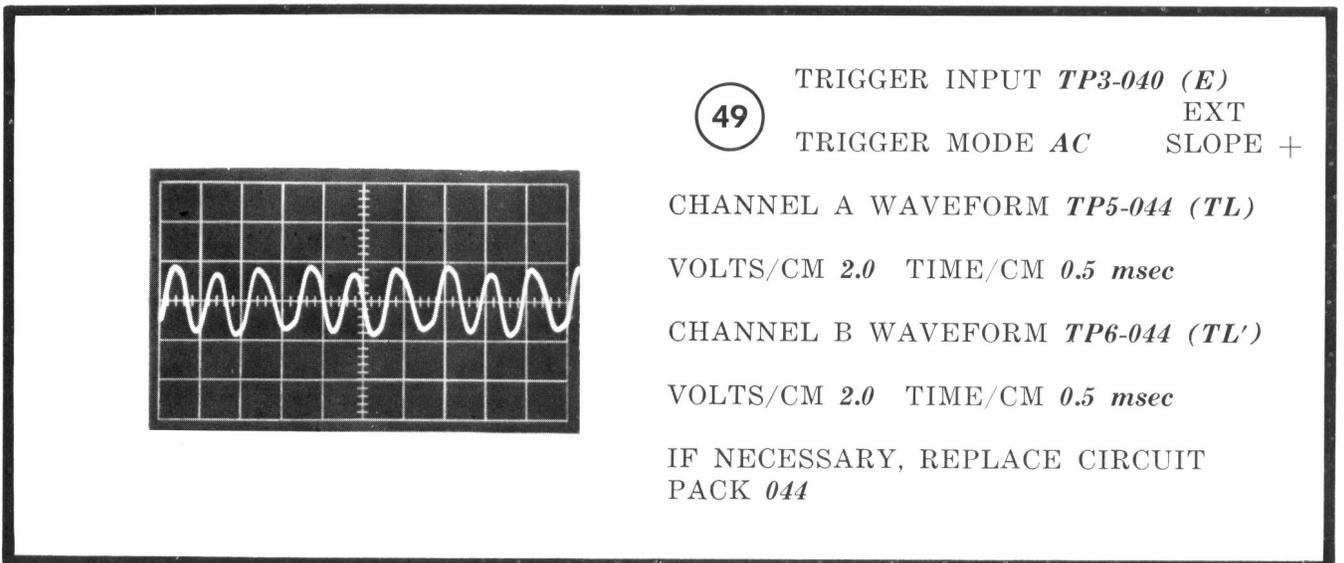
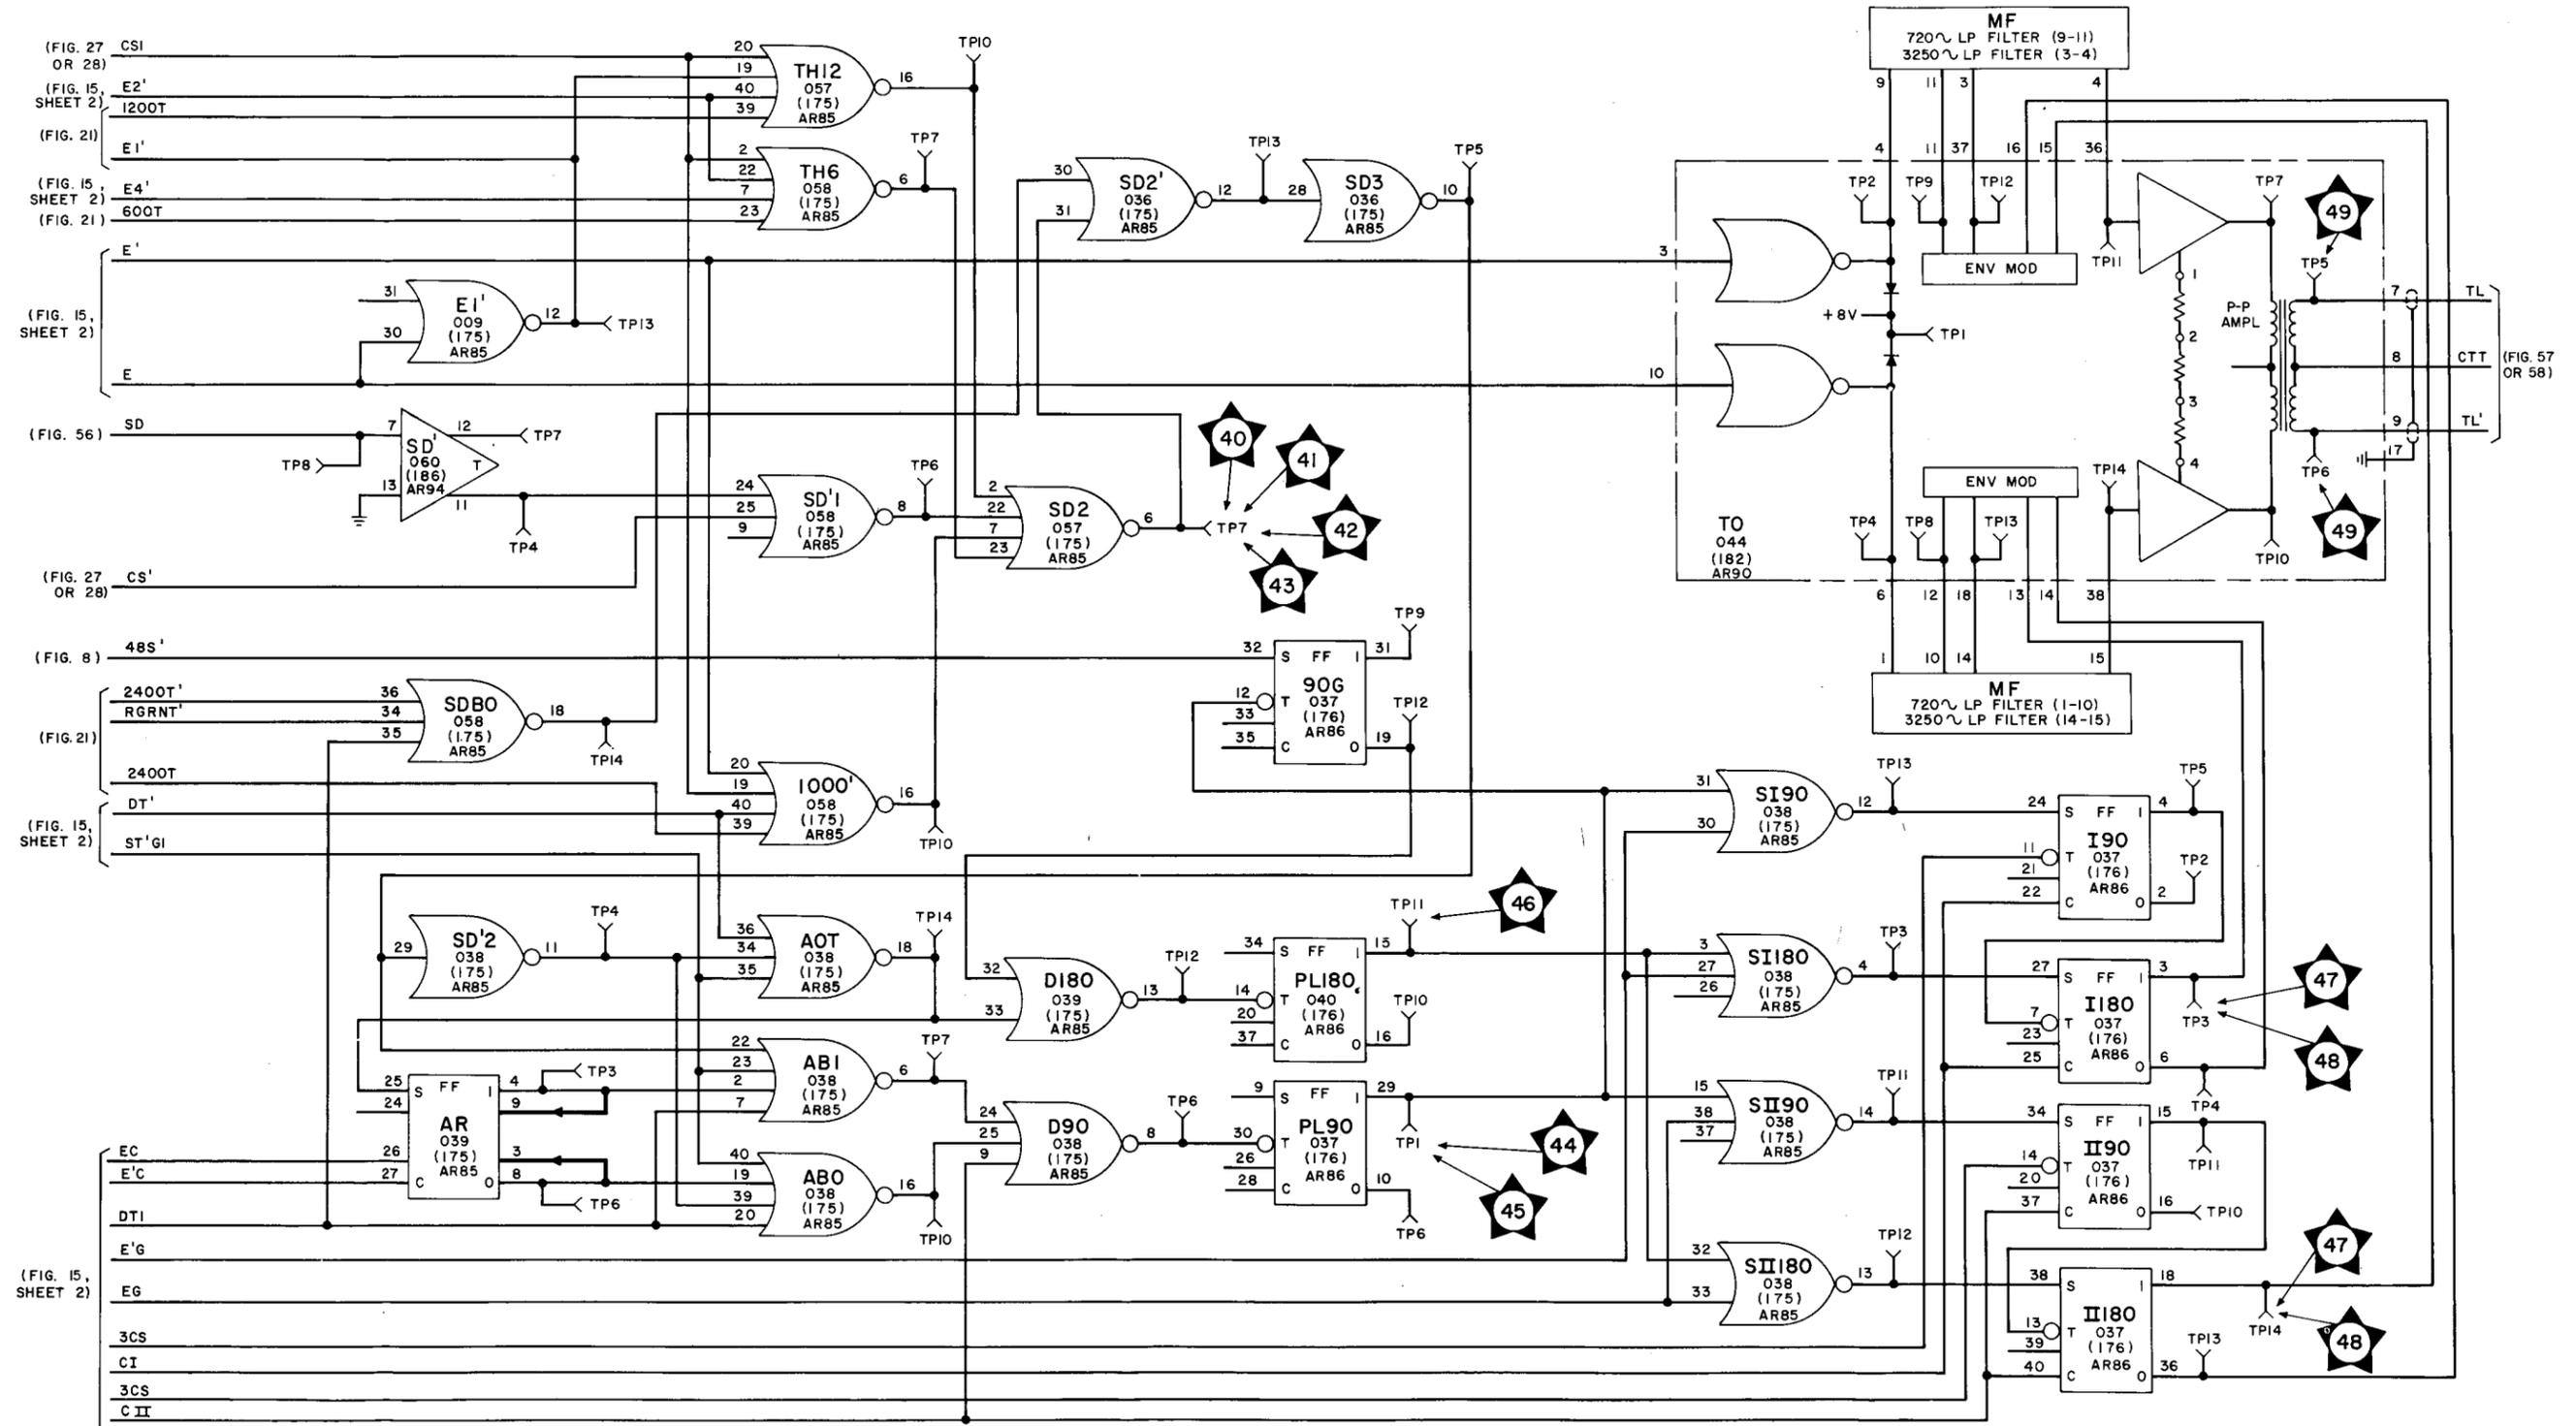

Fig. 33 — Data Transmitter Tests
Fig. 34 — Data Transmitter, Functional Schematic
11.25 Waveform requirements shown in Fig. 29 through Fig. 33 are keyed to the functional schematic shown in Fig. 34. The waveforms are examples of normal operation for various modes in which the transmitter may be used.